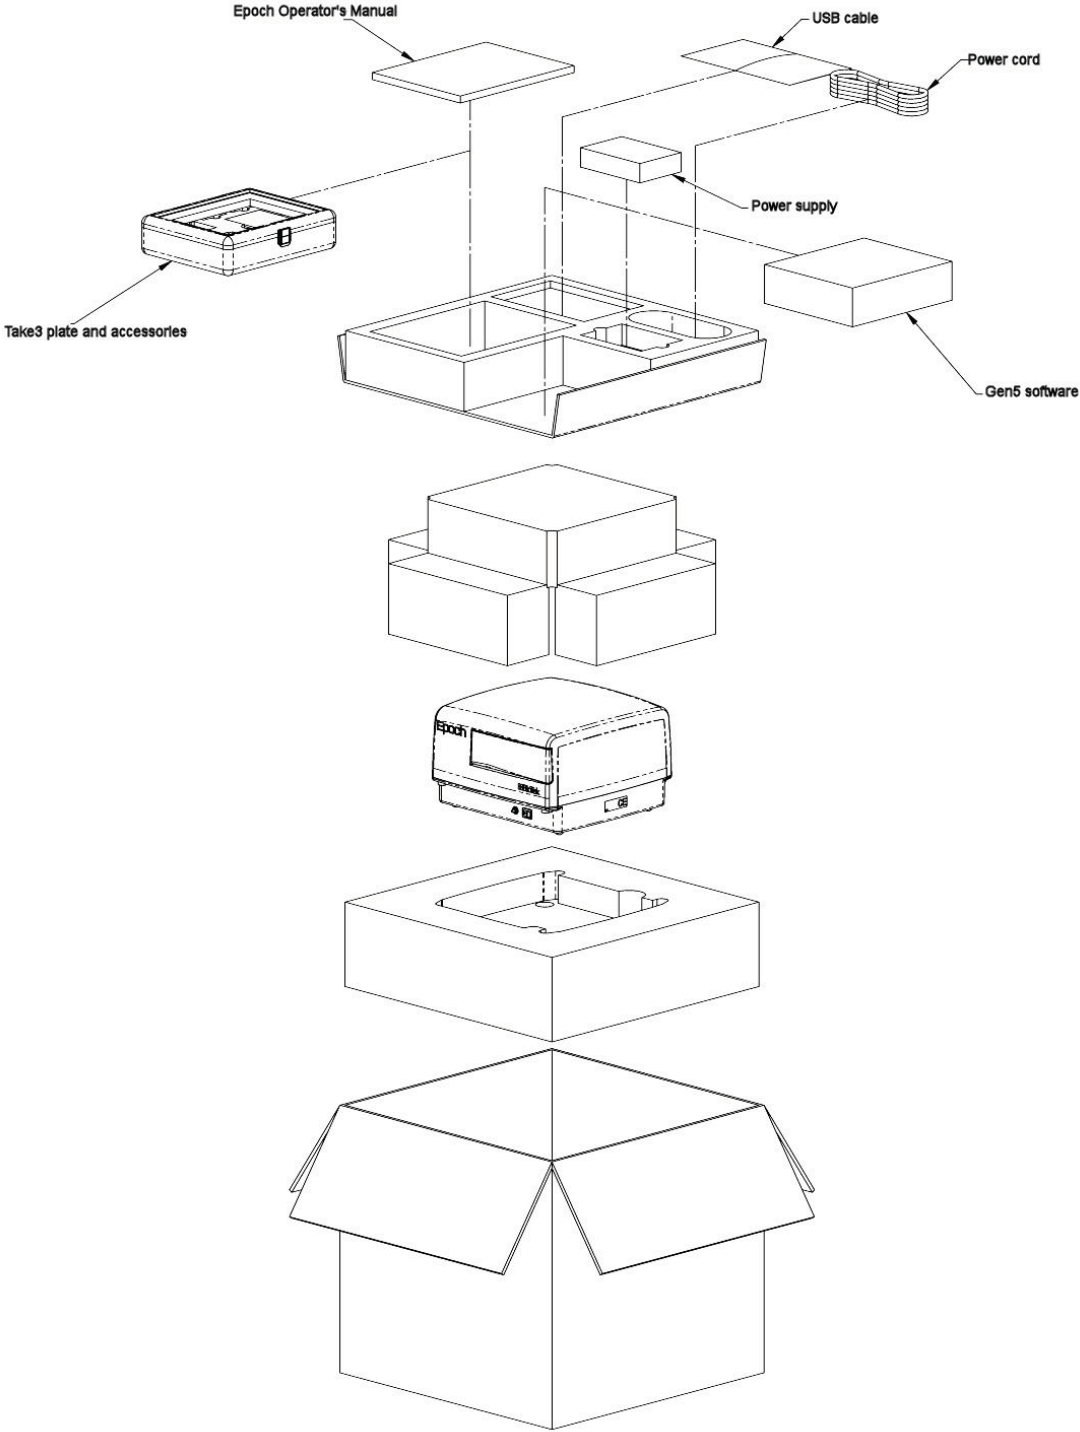

Figure 4: Packing the Epoch
Ensure that the Epoch carrier shipping hardware has been attached to the reader's carrier as instructed in the preceding section, **Attach the Shipping Hardware**. Refer to **Figure 4** on the following page when performing these steps:
1. Place the foam cap into the bottom of the shipping container. Note the orientation of the foam cap in the box as illustrated in **Figure 4**.